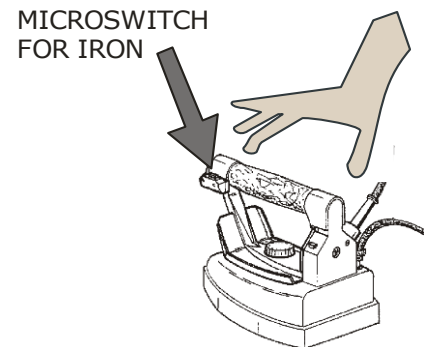

Fig. 4
1. Run the iron on the garments, pressing the micro-switch of the iron (fig. 4) at intervals so that steam comes out.